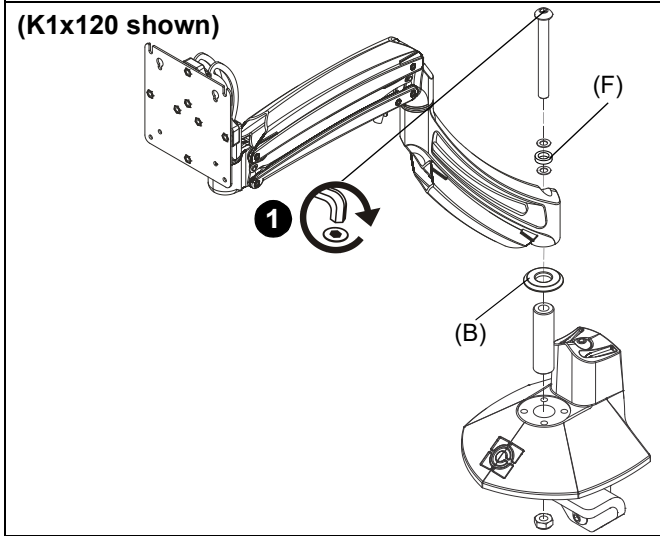

Figure 1
1. Use hardware removed when removing arm from previous mount to mount arm to KRA244 accessory (A). Replace standard pivot pin spacer with tapered pivot pin spacer (B) and replace thin plastic spacer with 1/2" thick spacer (F). (See Figure 1)